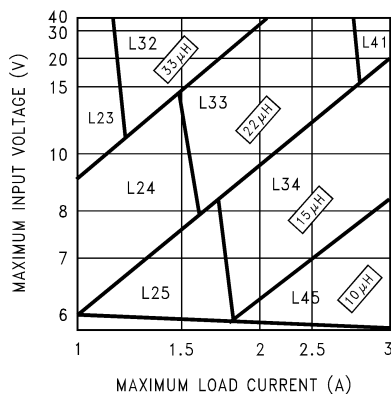
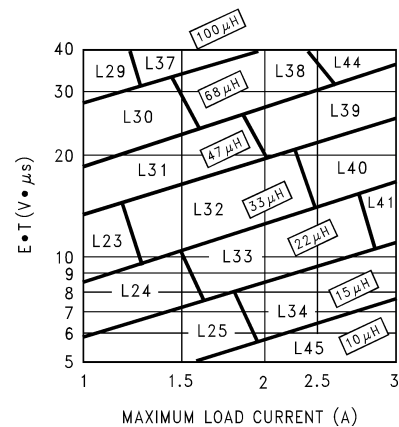

Figure 21. LM2676-3.3
Figure 24. LM2676-ADJ
Step 3: Determine the inductor required by using one of the four nomographs, Figure 21 through Figure 24. Table 1 provides a specific manufacturer and part number for the inductor.
Step 5: Determine an input capacitor from Table 8 or Table 9 for fixed output voltage applications. Use Table 3 or Table 4 to find the specific capacitor type. For adjustable output circuits select a capacitor from Table 3 or Table 4 with a sufficient working voltage (WV) rating greater than $V_{in\ max}$, and an rms current rating greater than one-half the maximum load current (2 or more capacitors in parallel may be required).
Step 3: Use the nomograph for the 3.3V device, Figure 21. The intersection of the 16V horizontal line ($V_{in\ max}$) and the 2.5A vertical line ($I_{load\ max}$) indicates that L33, a 22 μ H inductor, is required.
Step 3: To use the nomograph for the adjustable device, Figure 24, requires a calculation of the inductor Volt•microsecond constant ($E \cdot T$ expressed in $V \cdot \mu\text{s}$) from the following formula:
Using Figure 24, the intersection of 27V• μs horizontally and the 2A vertical line (I_{load} max) indicates that L38, a 68 μH inductor, should be used.
When using the adjustable device in low voltage applications (less than 3V output), if the nomograph, Figure 24, selects an inductance of 22 μH or less, Table 12 and Table 13 do not provide an output capacitor solution. With these conditions the number of output capacitors required for stable operation becomes impractical. It is recommended to use either a 33 μH or 47 μH inductor and the output capacitors from Table 12 or Table 13.